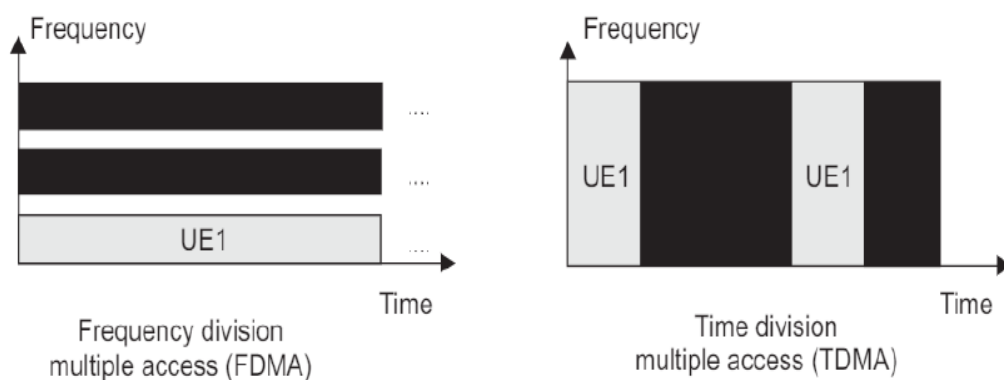

Fig 4.17: Example multiple access techniques
- Mobile communication systems use a new different multiple access techniques, two of which are shown in Fig. 4.17 **frequency division multiple access (FDMA)** was used by the first-generation analogue systems. In this technique, each mobile receives on its own carrier frequency, which it distinguishes from the others by the use of analogue filters.